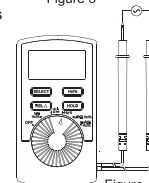

Figure 4
4. Measuring Frequency and Duty Cycle (See Figure 4)